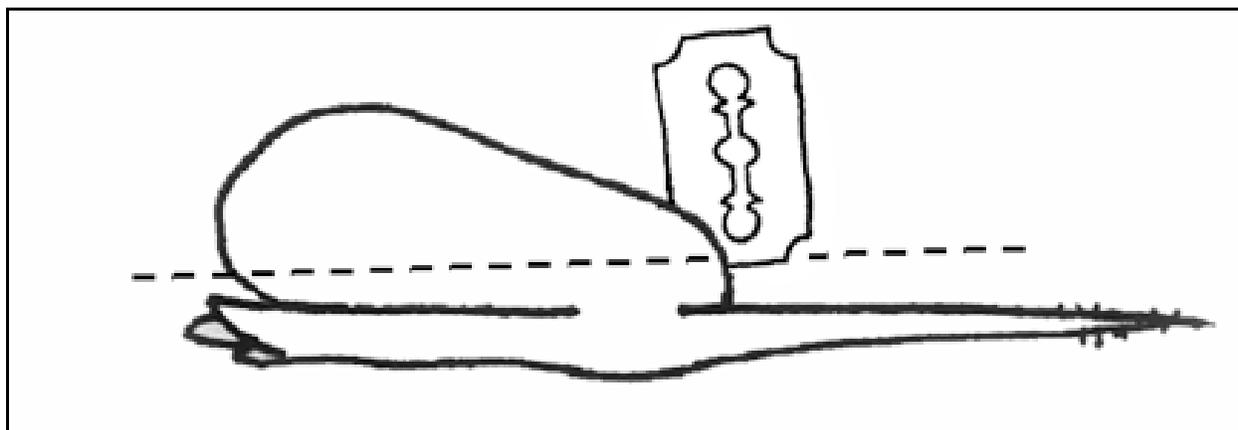

Figure 1. Direction of incision through the seedling during removal of endosperm.
3. Cut off the endosperm carefully with the razor blade or scalpel (See Figure 1).